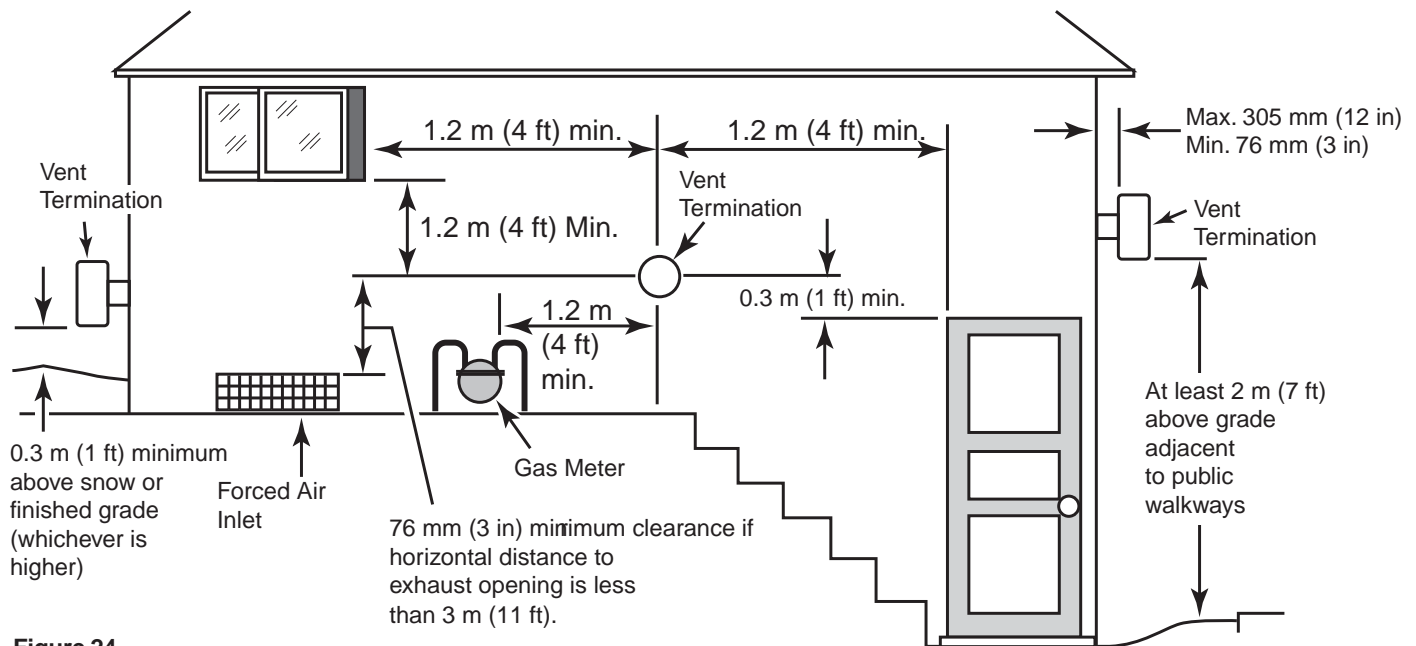

Figure 24.
- at least 76 mm (3 in) and at most 305 mm (12 in) out from the wall (see Figure 24), following the vent manufacturer’s instructions